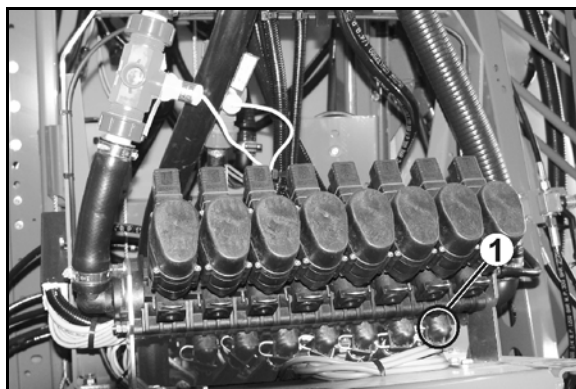

Fig. 198
1. Remove all spray lines from the part width section valves (Fig. 198/1).